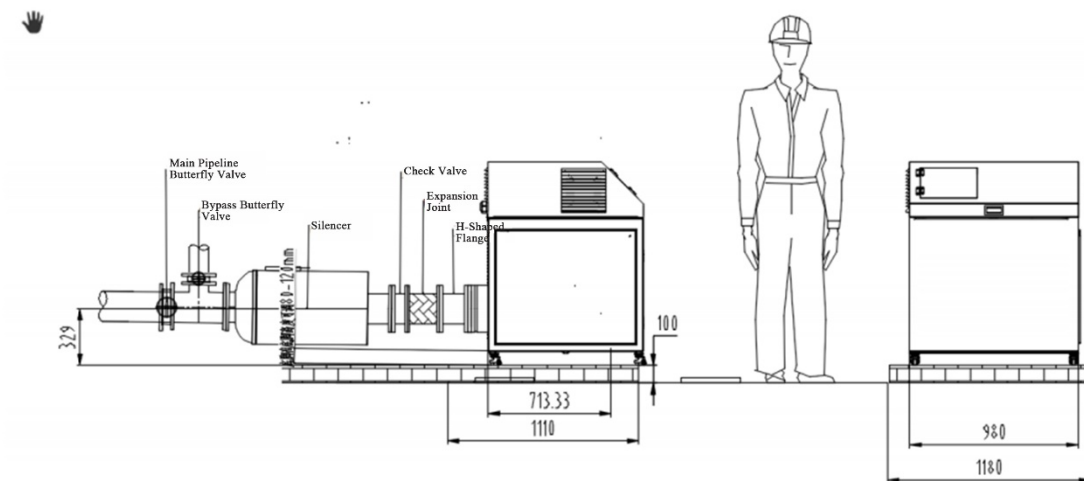

Figure 4-4. Discharge Line Connection
4.3.3.2. Prevent pipeline loads from affecting equipment installation support, as shown in Figure 4-4